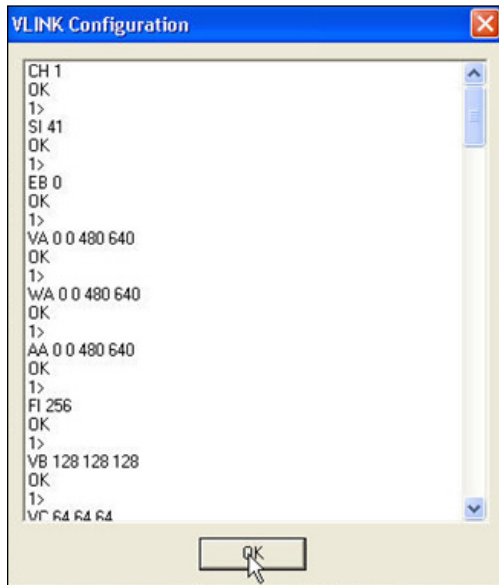

Figure 43: Configuration
- f. Click **OK** after the **VLink Configuration** window opens. Refer to **Figure 43**.